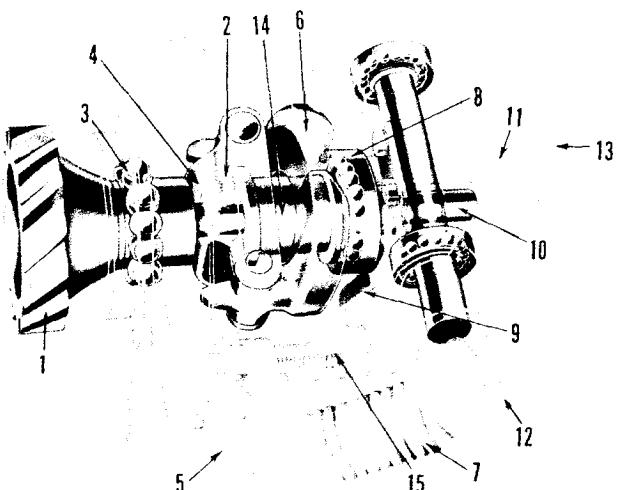

Figure 90 — Sectional Drawing of a Pierce Centrifugal Governor
**Operation (See Fig. 90)** — Pierce governors operate as follows: